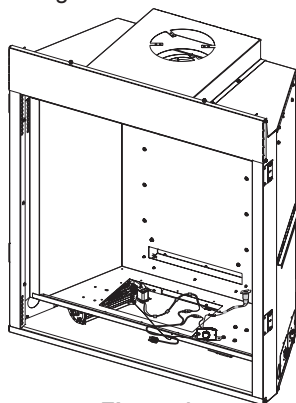

Figure 15
12. Install blower through firebox cutout. **See Figure 15.**